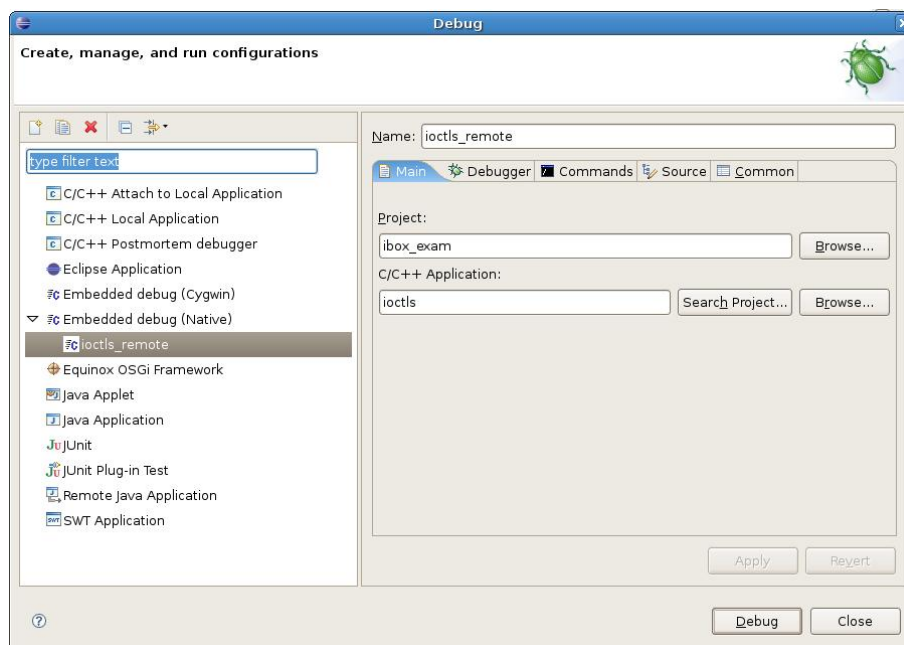

Figure 38: Eclipse debug: Main tab
- select the project corresponding to yours (see Figure 38)